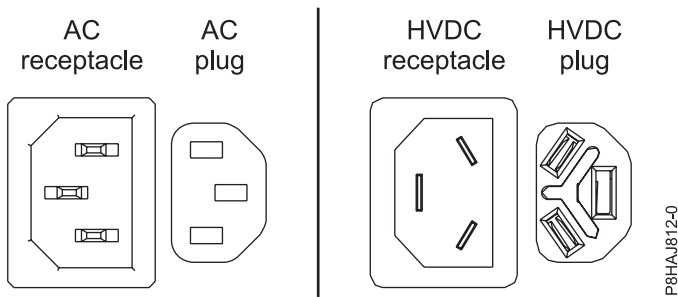
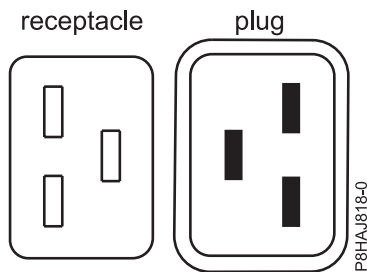
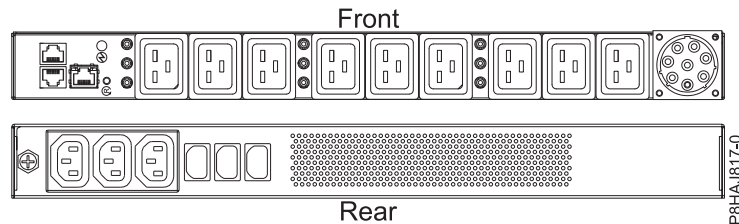

Figure 38. AC and HVDC connectors
Figure 39. Connectors for the 8408-44E system
Figure 40. PDU for the 8408-44E system
- The power cord is fastened to the system using the hook-and-loop fastener (A). If you are placing the system in a service position after disconnecting the power cords, then ensure that you unstrap the fastener.
Figure 38 shows the supported alternate current (AC) and high voltage direct current (HVDC) connectors. Figure 39 and Figure 40 show the supported connectors and power distribution unit (PDU) for 8408-44E.